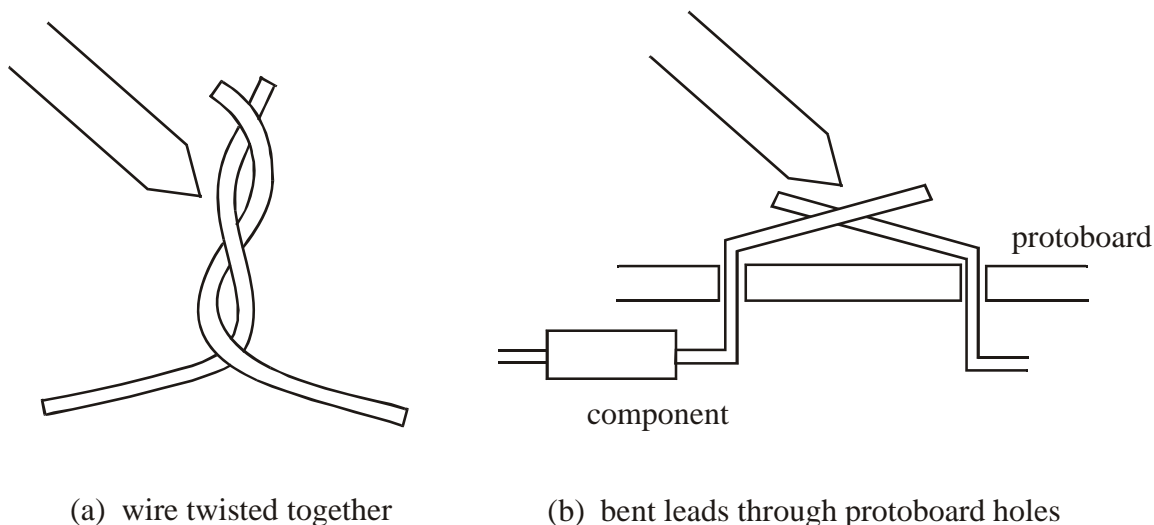

Figure 15.7 Preparing a Soldered Joint
- (1) Before soldering, assemble your materials: a hot soldering iron, solder, components, wire, protoboard or perforated board, wet sponge and magnifying glass.
- (2) Clean any surfaces that are to be joined. You may use fine emery paper or a metal brush to remove oxide layers and dirt so that the solder may easily wet the surface. Rosin core (flux) solder will enhance the wetting process.
- (3) Make a mechanical contact between elements to be joined, either by bending or twisting, and ensure that they are secure so that they will not move when you apply the iron. Figure 15.7 illustrates two wires twisted together and a component inserted in a protoboard in preparation for soldering.